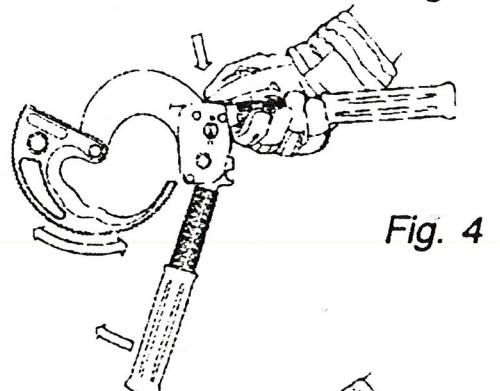

Fig. 4
2. To freely turn pivoted blade in any direction keep hand lever fully open and at the same time press down retaining pawl (fig. 4). Open cutter wide enough to be able to easily insert the cable into the gap. Insert cable.
Keep hand lever fully open and release retaining pawl, if necessary by tapping slightly with a plastic hammer. Keep retaining pawl depressed and open hand lever fully. The pivoted blade can now be turned back (fig. 4).